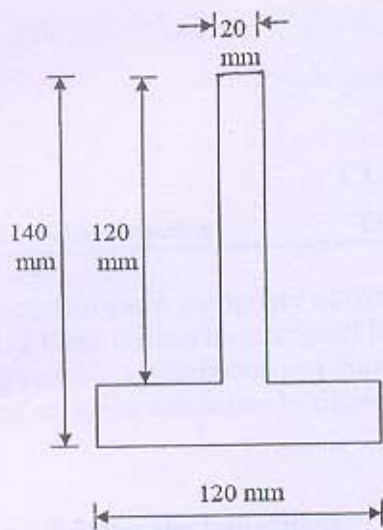

Figure 7
- (c) A beam in the form of cross is shown in **Figure 7** is subjected to shear force of 25 kN. Draw the shear stress distribution diagram. [06]